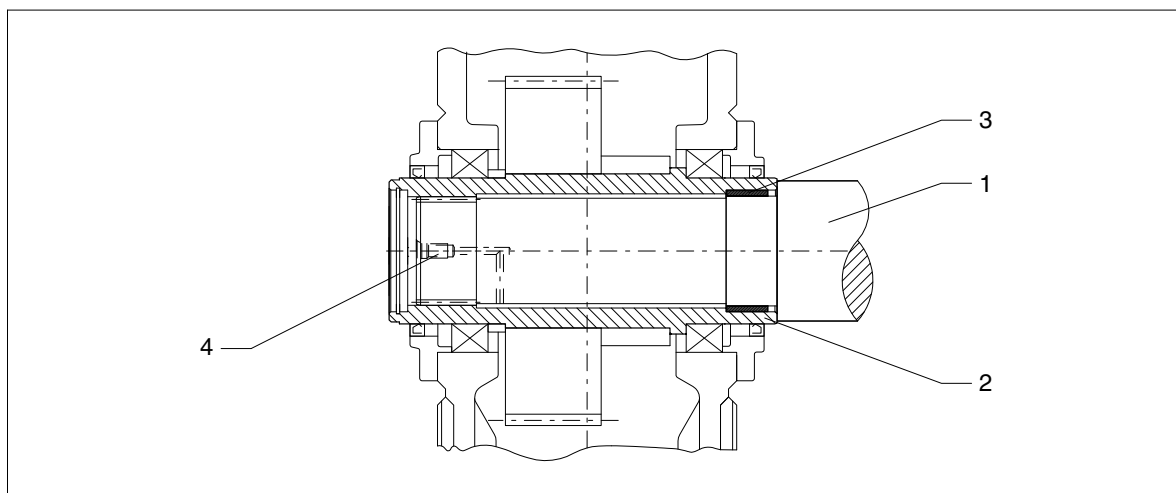

Fig. 48: Hollow shaft with internal spline, preparation
To facilitate demounting (see also item 6.4.3), we recommend providing a connection for pressure oil on the end of the driven-machine shaft end, which is drilled through to the hollow-shaft recess (see figure 48). This connection may also be used for supplying rust-releasing agent.
- If frictional corrosion has occurred on the seating surfaces, rust-releasing agent may be used to facilitate forcing off the gear unit. The rust releaser can be injected through the pressure-oil connection (see figure 48), e.g. using a pump.